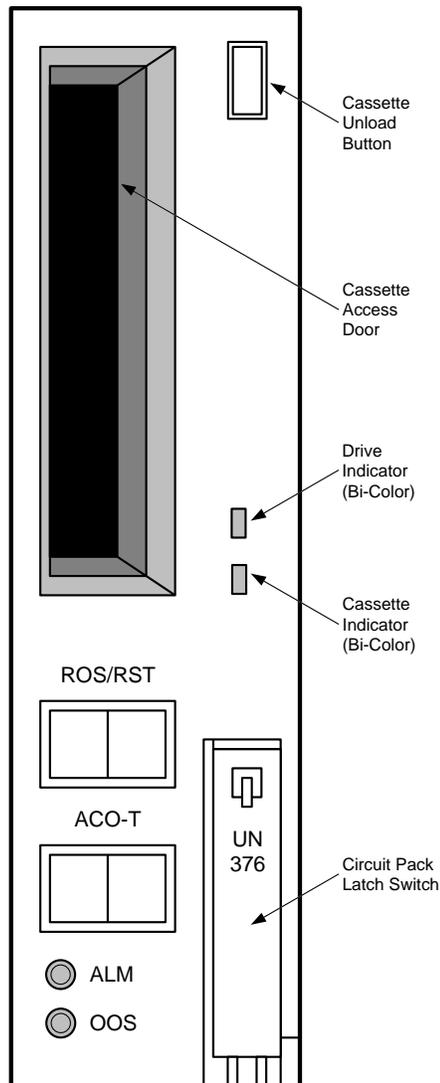

Figure 2-1. DAT Drive - Front View
- Clean when the front panel indicators show a “caution.” This is when the top indicator (drive) alternately flashes green and amber and the bottom indicator (cartridge) is a steady green. The DAT drive front panel controls are shown in Figure 2-1.